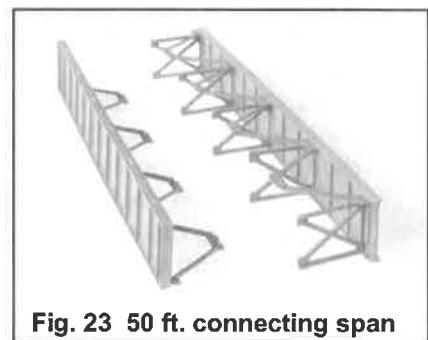
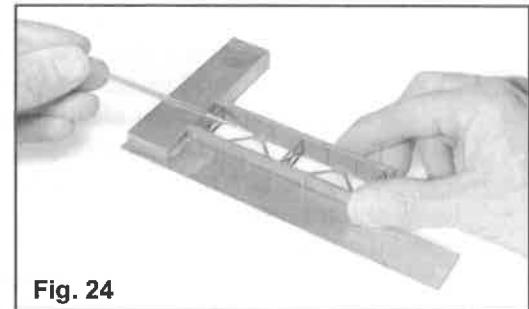

Fig. 23 50 ft. connecting span
Fig. 24
Place one of the girders on edge with the lateral bracing down. Place the other girder on edge with the lateral bracing up and slide the two assemblies together. See fig. 23. For tower spans, which have only one lateral brace, make sure the inside face of both girders are aligned properly as described in step 21. Use rubber bands to hold the span assembly together while positioning the bracing as described in steps 22 and 24. Cement the X-braces to the opposite girder. For the bridge deck to align properly span to span, it is important that the two girders of each span be square. As with a prototype bridge the lateral bracing keeps the girders square to each other. Remove the rubber bands and place the girder assembly in a square as shown in fig. 24. Cement the lateral bracing while holding the girders against the square.
**Step 22.** Fit a 30' or 50' lateral bracing part (25) or (29) to a shortened girder and then trim the end rivet plates on the lateral bracing as necessary so they do not extend past the ends of the girder. Cement the trimmed lateral bracing to the shortened girder.
**Step 23.** Cement the second 30' or 50' lateral bracing part (25) or (29) to a full length girder.
**Step 24.** Cement the 30' or 50' X-braces part (26) or (30) to the shortened girder. It may be necessary to locate the end X-braces on the opposite side (non-rivet side) of the vertical angles if the rivet side has been trimmed off. These X-braces should still face the same direction as if located in their normal position.
**Step 25.** When cementing the two girder assemblies together for each span, only the two **tower spans** can utilize the square as shown in fig. 24. Since the **connecting spans** have a shortened girder, the square cannot be placed against the girder ends. Instead, place the square against a vertical angle on the outside of one girder and visually align it with the corresponding vertical angle on the inside of the other girder.